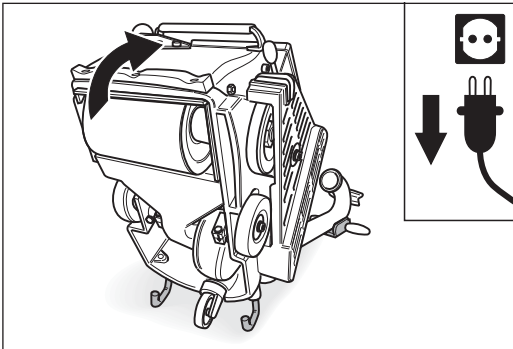

Fig. 99 **Pull the power plug out of the socket! Tilt the machine backwards. Ensure that the machine is standing securely!**
- 3 Tilt the machine backwards over the safety guards (fig. 99). **Ensure that the machine is standing securely!**